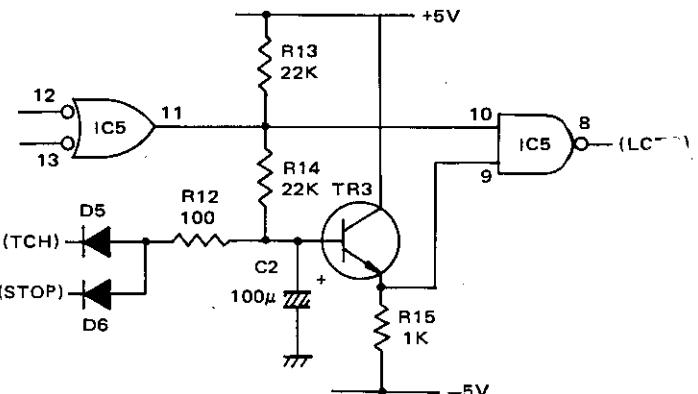

Fig. 4 Delay circuit for coincidence signal
The tonearm travel stops when it reaches the ordered position, either the preset locate position or the arm rest. As described earlier, when the tonearm reaches the above position, the coincidence signal is provided. Accordingly, Pin ⑪ of IC5 becomes high level which is in turn fed into Pin ⑩ of IC5 in Fig. 4. However, by TR3 and the capacitor C2 at its base, charging voltage (base voltage of TR3) gradually increases in a time determined by the time constant of the circuit. If the coincidence signal is sustained for a certain period of time, the emitter voltage of TR3 reaches high level and after that, a signal is obtained at Pin ⑧ of IC5 indicating that the tonearm position coincides the ordered position. By this signal, both memory circuits, LCTFF and CUTFF is simultaneously reset for descending the tonearm and the automatic function is completed.